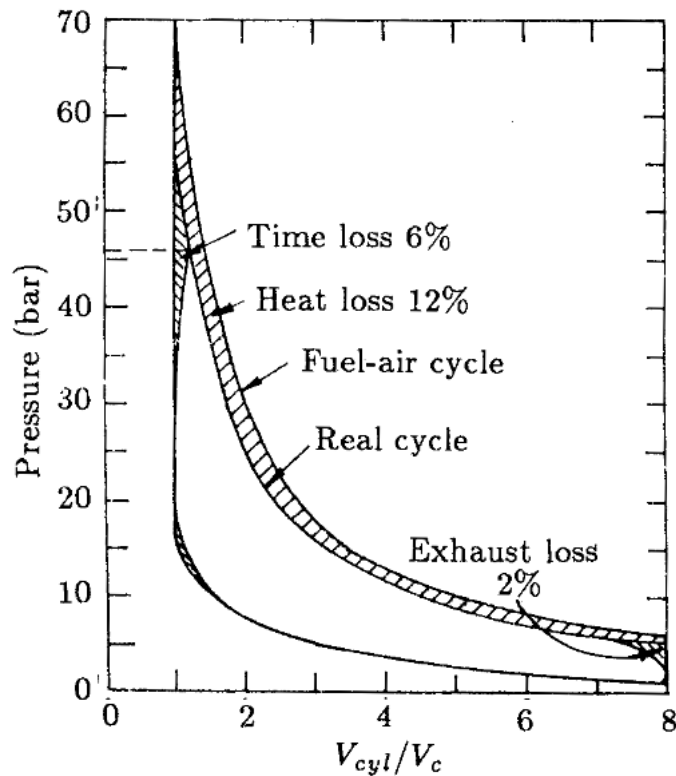

Fig. 5.8 Time Loss, Heat Loss and Exhaust Loss in Petrol Engines
- The heat loss, along with other losses is shown on the p - V diagram in Fig. 5.8.
- The effect of loss of heat during combustion is to reduce the maximum temperature and therefore, the specific heats are lower. It may be noted from the Fig.5.8 that of the various losses, heat loss factor contributes around 12%.